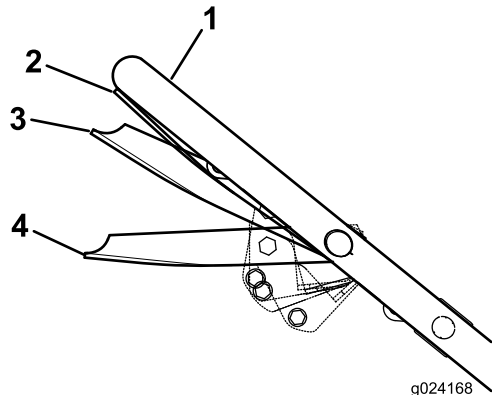

Figure 19
3. Squeeze the blade-control bar against the handle to the Run/Drive position (Figure 19).
transmission. Move the blade-control bar to the Run/Shift position (Figure 19) whenever you change the ground speed.